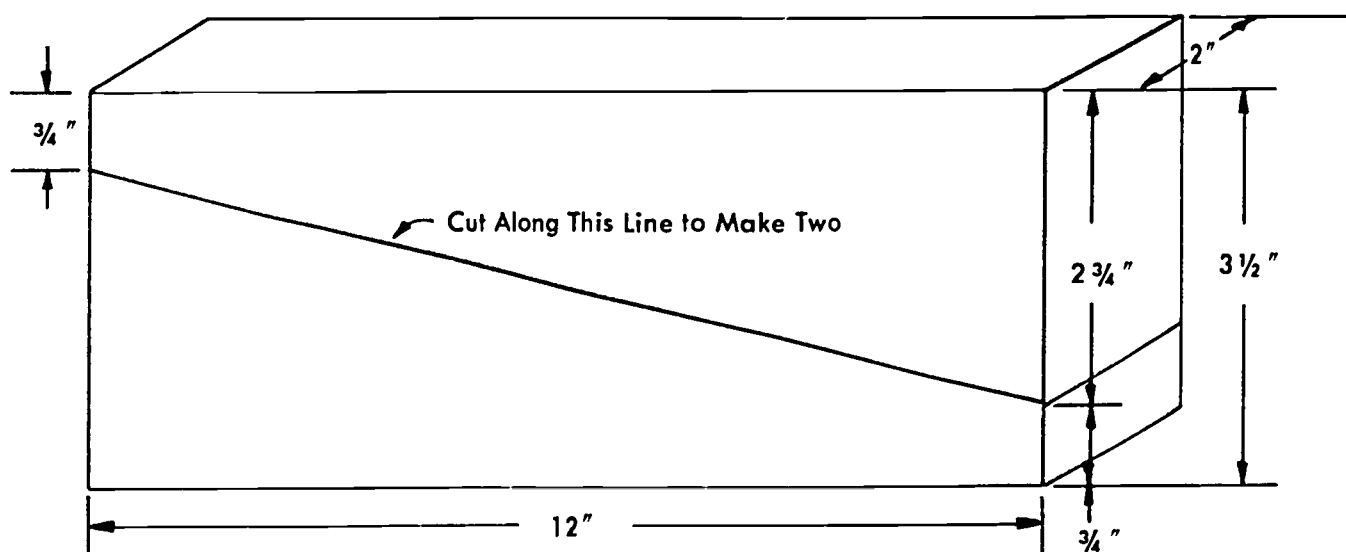

Fig. 21-1. Layout for Foamed Styrene Mock-Up
- Hand out precut foamed styrene blocks. See Fig. 21-1 for shape and size require-